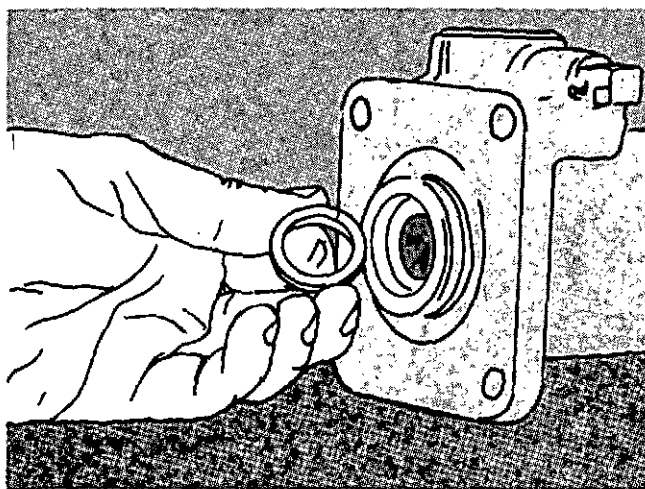

Fig. 4-33. Install The Sealing Ring Into The Shaft Guide Counterbore.
16. Install the rectangular sealing ring into the shaft guide counterbore, Fig. 4-33. Make sure the lip on the sealing ring is toward the plunger.